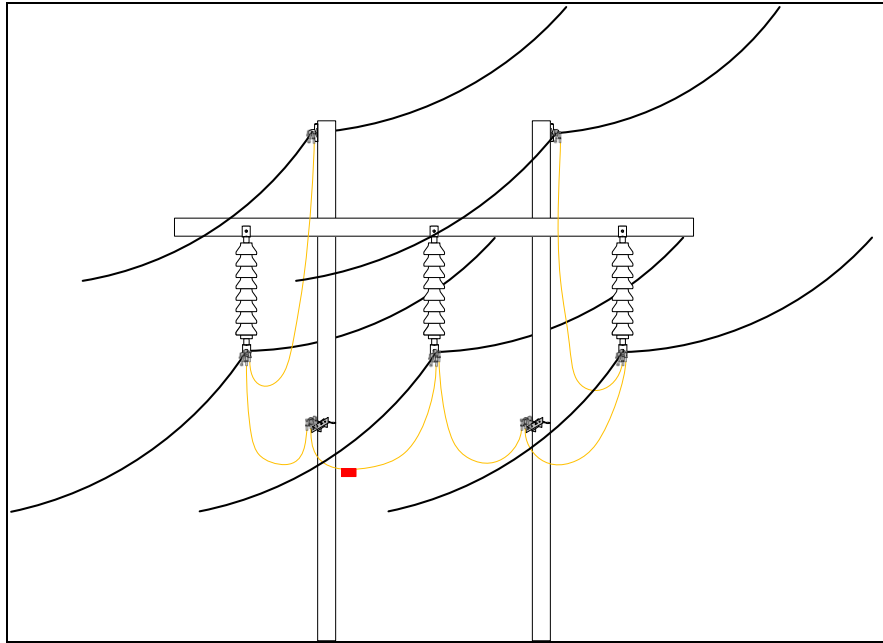

Figure 5 – Master Ground using Static Wire
- 8.26 Master grounds (refer to Figures 5 and 6) consist of the required ground cable assembly(ies) connected to: